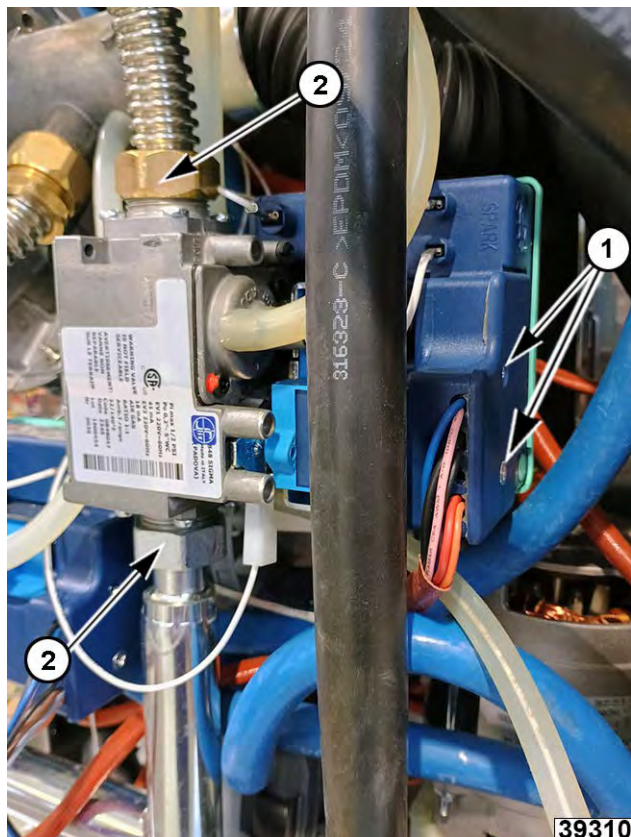

Fig. 104
2. Note and disconnect gas lines (2, Fig. 104) from gas valve.